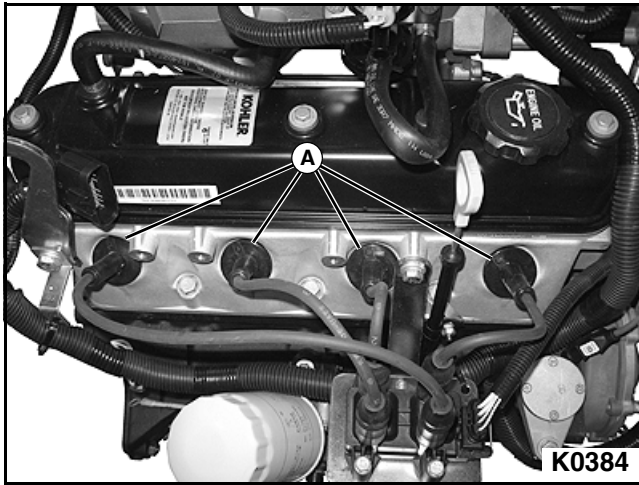

Figure 5-19
2. Use a cloth to wipe dirt and oil away from the area around each of the four spark plug wires (A). See Figure 5-19.